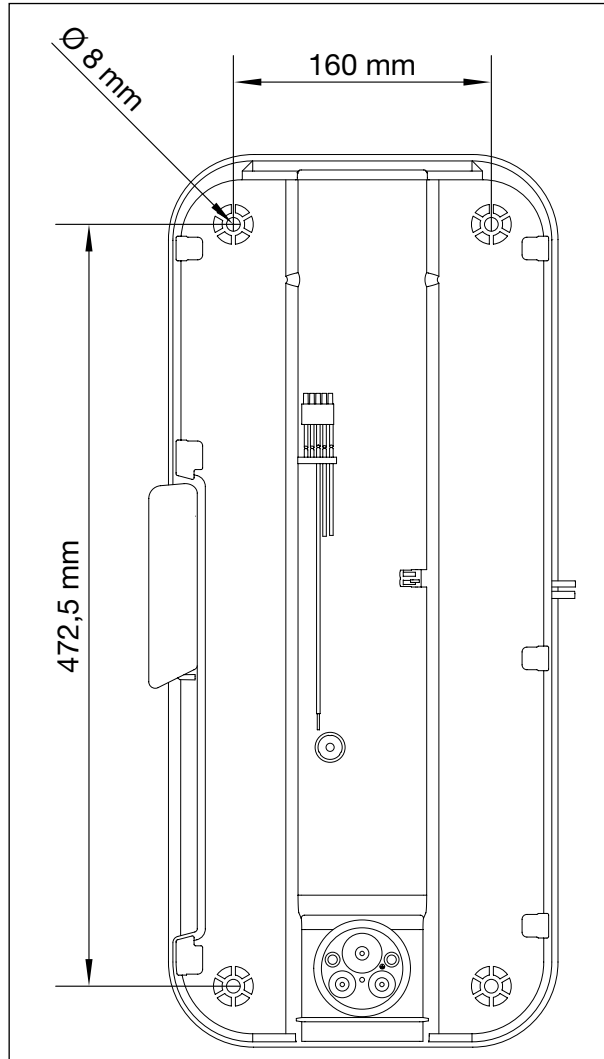

Fig. 8: Rear side of the charging station with hole spacings
- 1 Draw on the holes on the installation wall horizontally and vertically, in accordance with Fig. 8.